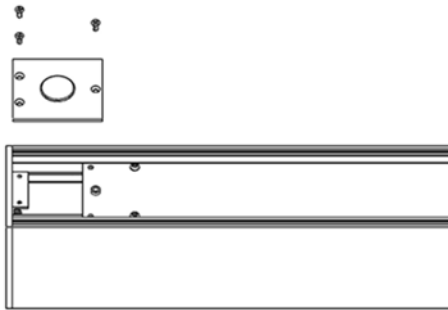

Fig7
2. Remove three #6 flat head screws securing the power inlet plate. (Fig. 7)